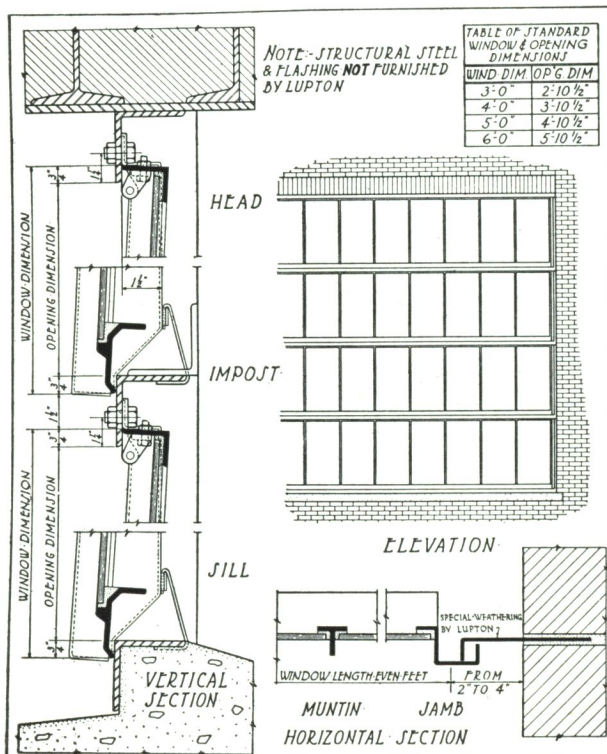

Fig. 3. Details of Sidewall Windows
**In the Side Walls**—Between pilasters, special width units and glass are sometimes necessary. The end rails of formed plate (section 326) overlap special plate weathering furnished by us, see details page 100, Fig. 3. Width of opening is specified by architect. Weathering is of standard overall width ( $5\frac{1}{2}$  in.) and is located to project from the masonry from  $1\frac{1}{2}$  to  $3\frac{1}{2}$  in. This gives an allowable variation of 4 in. in width of unit and saves needless glass cutting.
Windows between pilasters require special end weathering in jambs which we furnish. See Detail on page 100, Fig. 3, for dimensions needed, covering both window and weathering.